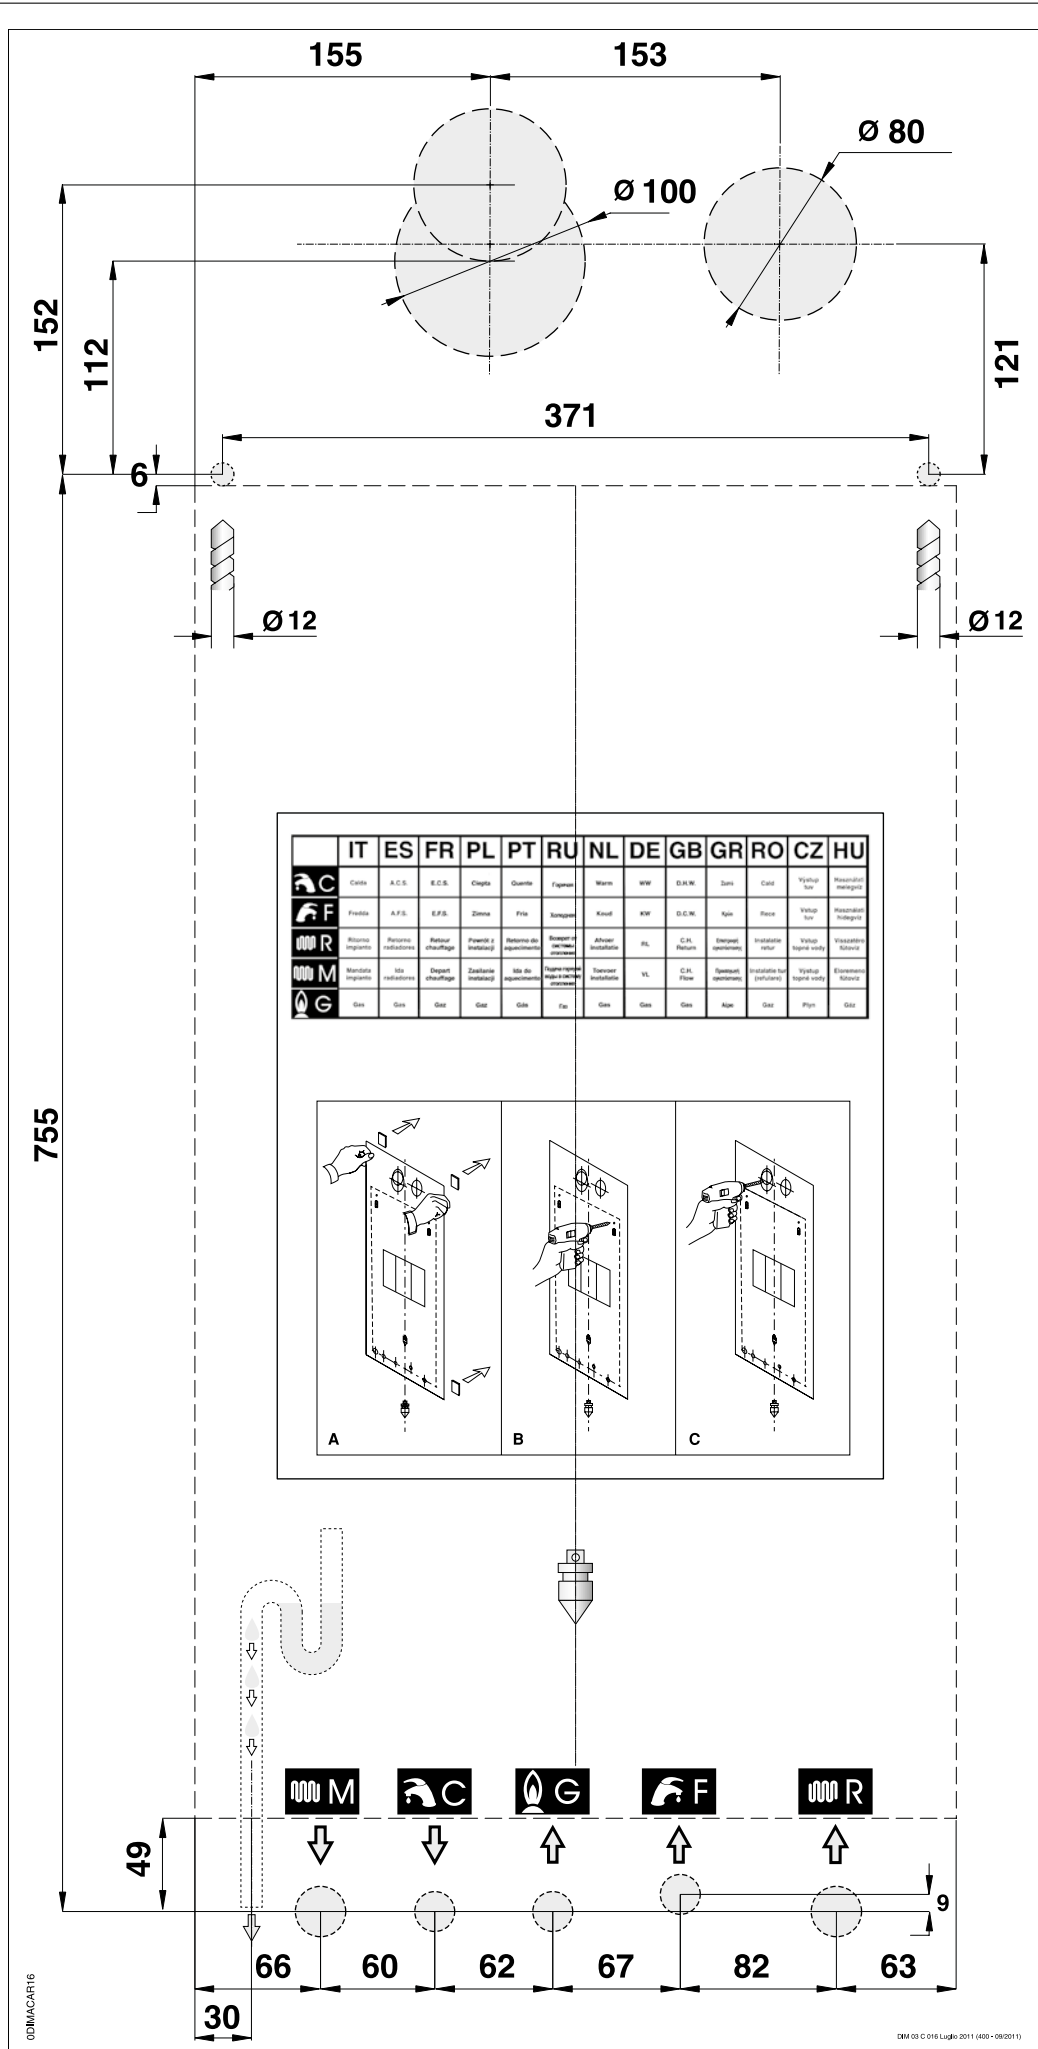

fig. 12
- b) template for mounting boiler on a wall (fig. 12),
Each boiler is supplied with a paper template (fig. 12), within its packaging.
- secure the template (fig. 12) to the wall;